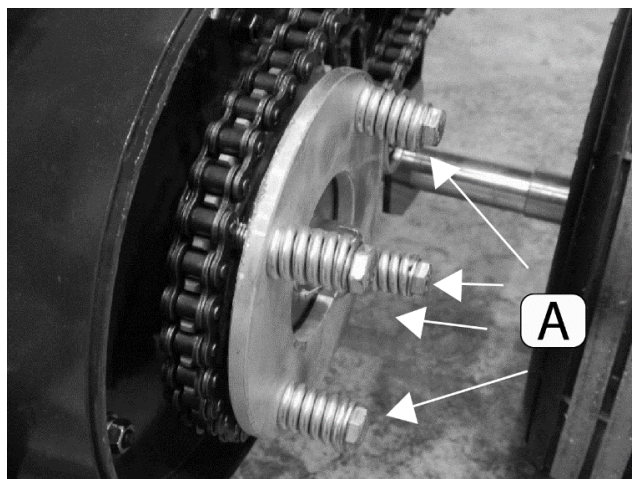

Figure 41 Bottom left side of baler under cover
The baler's pickup comes equipped with a slip clutch protection mechanism. When pickup components experience excessive resistance, the clutch will slip to prevent damage. The clutch's tension springs (Figure 41, A) apply pressure to resist slipping and must be tensioned properly. They are normally set at the correct tension at the factory, with spring length at approximately **one (1) inch (27mm)**. They should be adjusted to this length if the clutch begins to slip during normal use. However, each time the clutch slips, the friction discs inside the clutch experience wear. The discs should be replaced if worn.